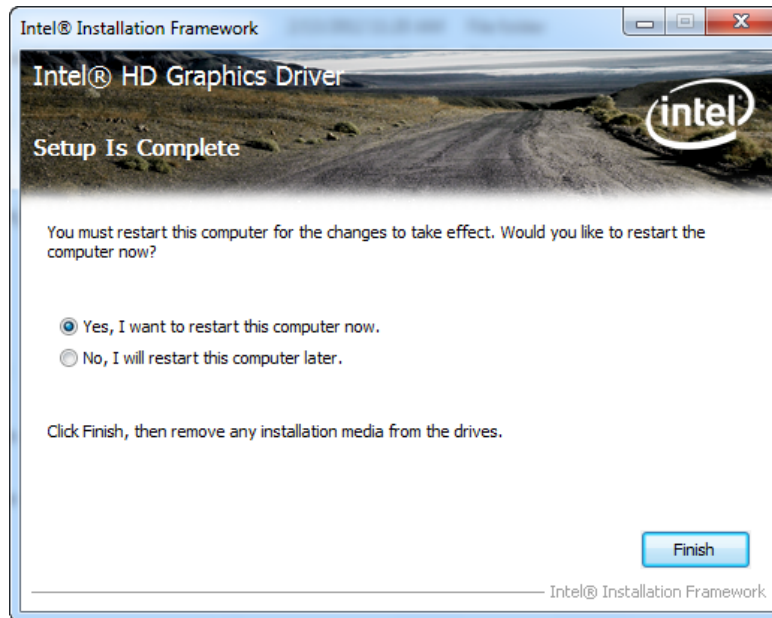

Figure 6-14: Graphics Driver Installation Finish Screen
Step 16: The **Finish Screen** in Figure 6-14 appears.